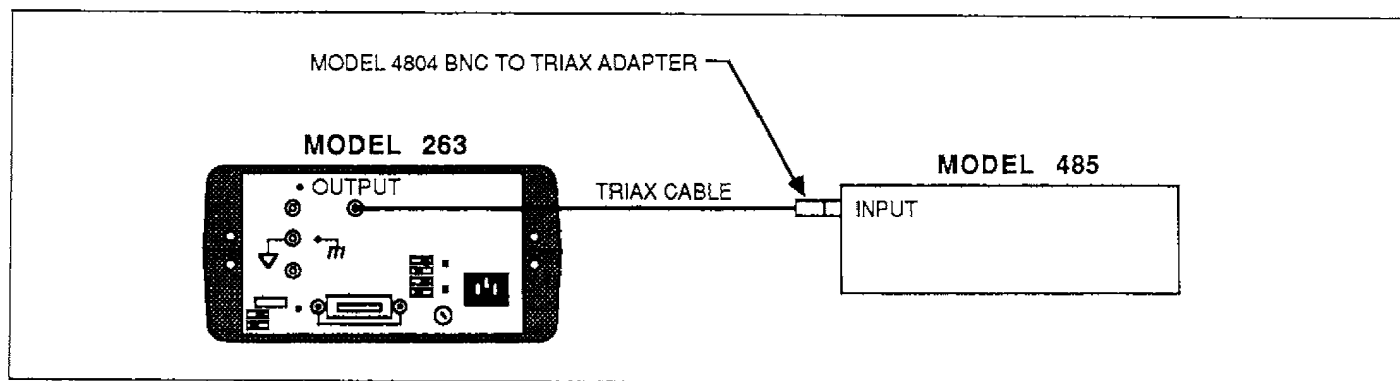

Figure 5-1. Model 485 Calibration Connections
3. Connect the output of the Model 263 Calibrator/Source to the input of the Model 485 as shown in Figure 5-1. Make sure the calibrator is in standby.
110 DISP "CONNECT 263 OUTPUT TO 485 INPUT (SEE FIGURE 5-1)."